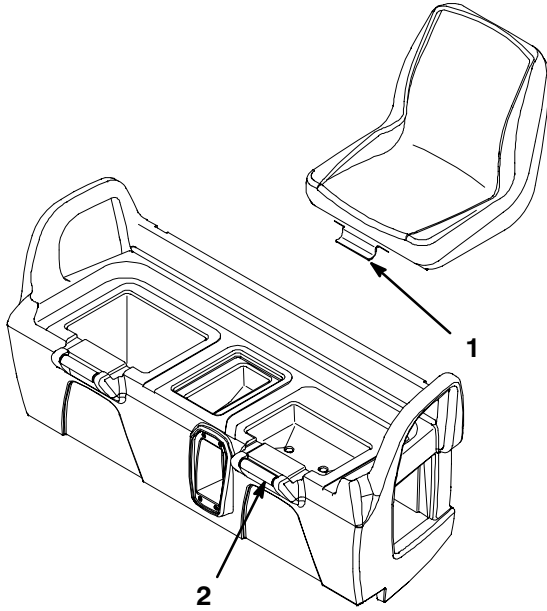

Figure 5
1. Insert the seat bracket into the seat base opening and pivot the seat downward (Fig. 5).